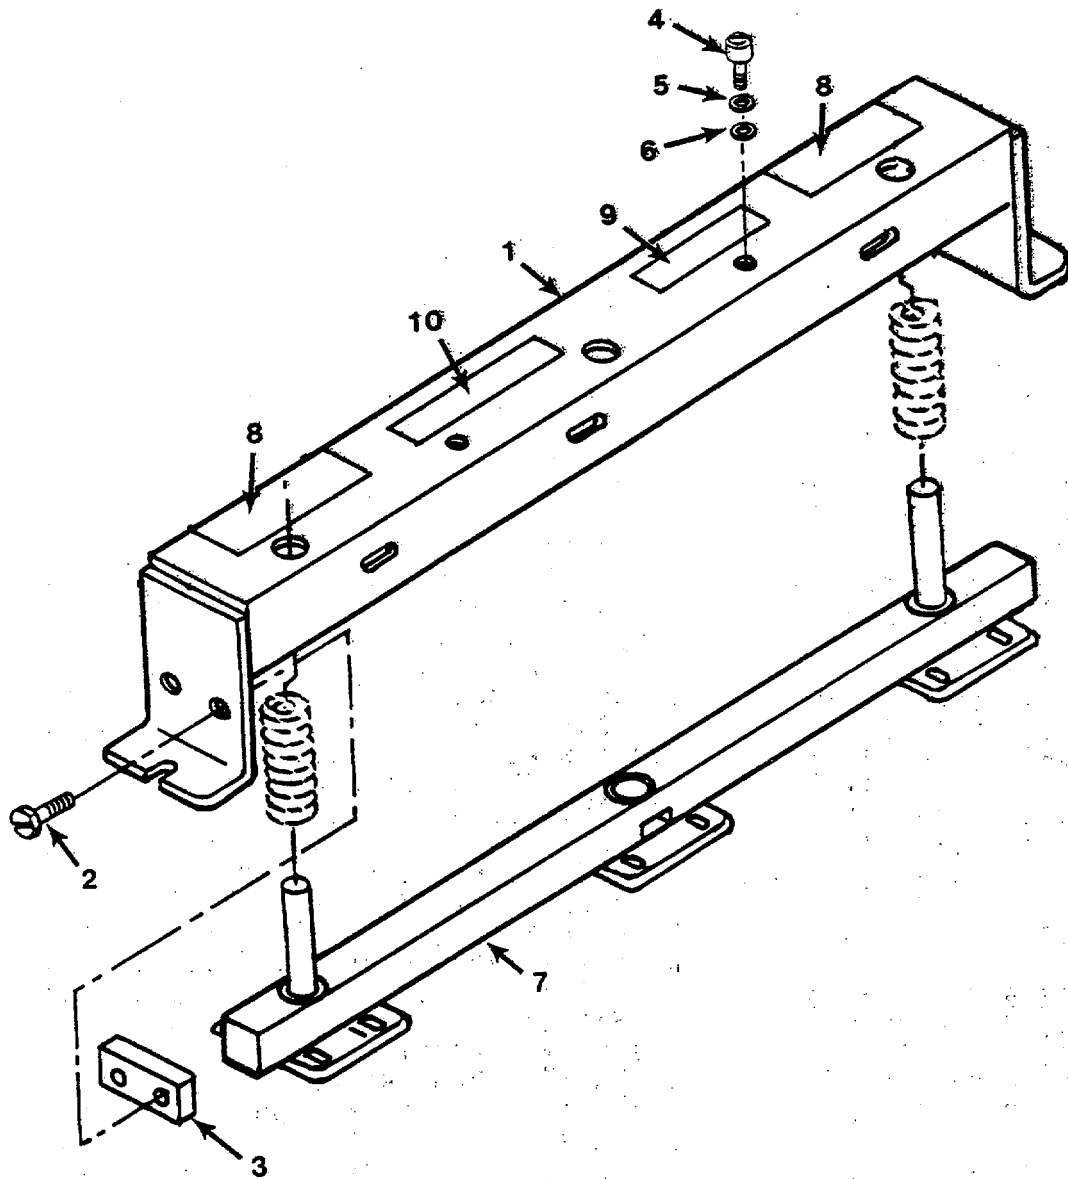

Figure 19. Transporter Assembly
| (1) ITEM NO | (2) SMR CODE | (3) CAGEC | (4) PART NUMBER | (5) DESCRIPTION AND USABLE ON CODES(UOC) GROUP 08 PAPER STORAGE RACK ASSEMBLY WITH LIGHT TABLE FIG. 19 TRANSPORTER ASSEMBLY | (6) QTY |